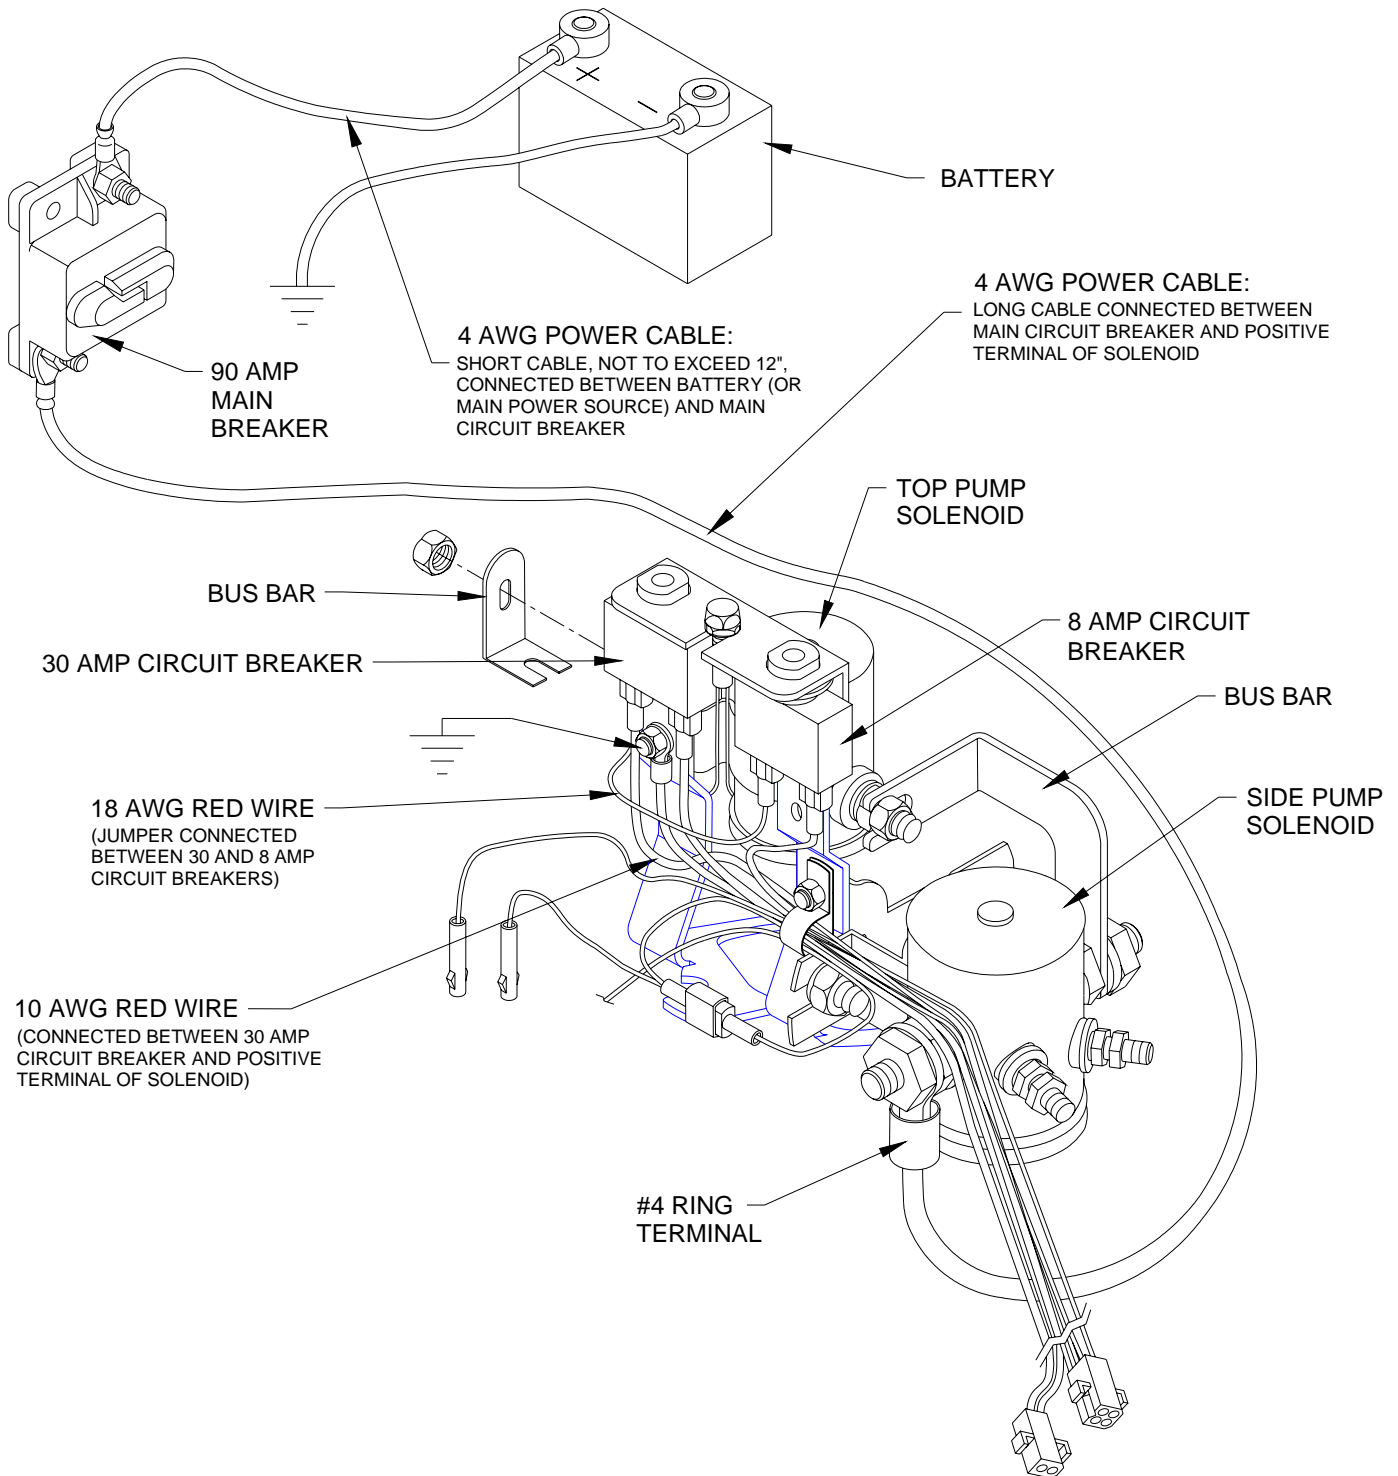

FIGURE 2-9: ELECTRICAL INSTALLATION DIAGRAM
- a. Refer to **Figures 2-9 and 2-10**. Drill a hole through vehicle floor near or under pump solenoids so power cable can reach positive stud of side solenoid (the stud on side solenoid that is not connected to top solenoid with a bus bar). The hole should be drilled so that it is covered by the pump cover.